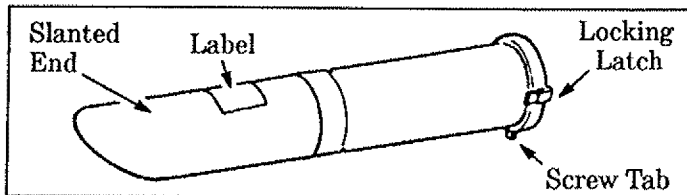

Figure 2
NOTE: The Lower Vacuum Tube is cut at an angle. Make sure the Label on the Lower Vacuum Tube is aligned on the opposite side of the Screw Tab on the Upper Vacuum Tube (shown in Figure 2).
2. Slide vacuum tubes together. Figure 2.